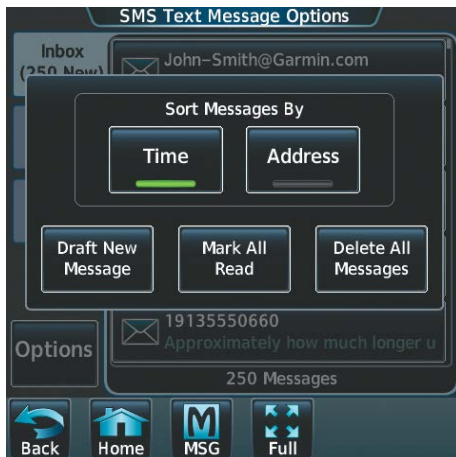

Figure 8-92 Select Draft New Message
- 2) Touch the **Options** Button as seen in Figure 8-91. The available options are displayed as in Figure 8-92.